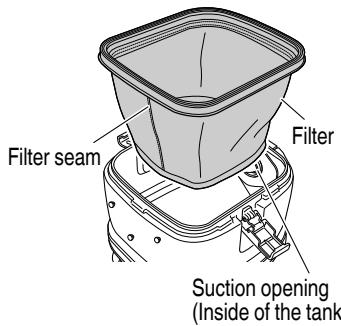

Fig. 14
- (2) Insert the cloth filter so that the seam is on the other side of the hose inlet. (Fig. 14)